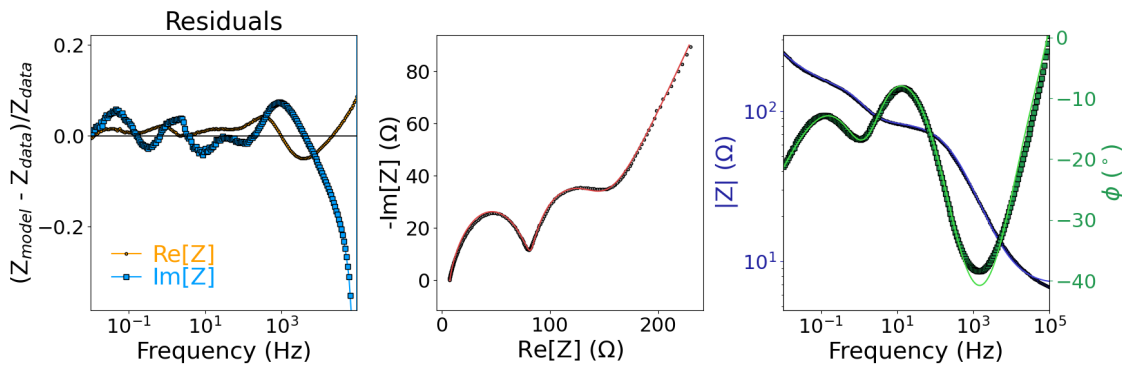

Figure 34: Plots in the refinement window before any refinement has been done.
- Now, it is time to move on to automatic refinement via `Calculate>Advanced refinement....` This will open a window with plots as in Figure 34. In the window, the `SciPy: Nelder-Mead` optimizer and `Calculated modulus` weighting scheme (modulus weighting based on the model curve) should be selected.